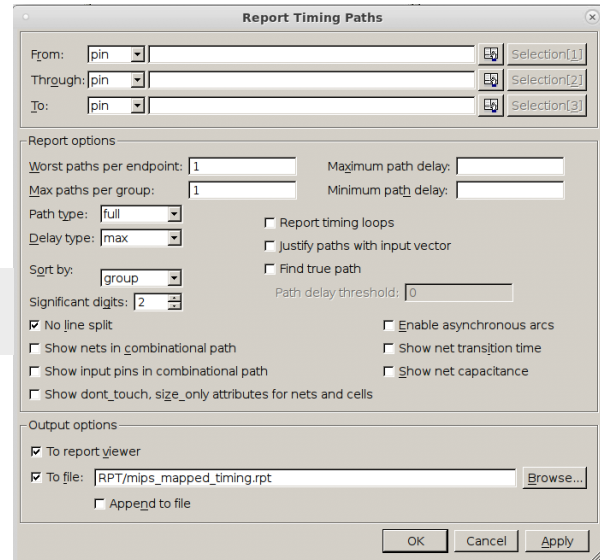

Figure 13: Reporting the critical path
2. Select the parameters as in Fig. 13.